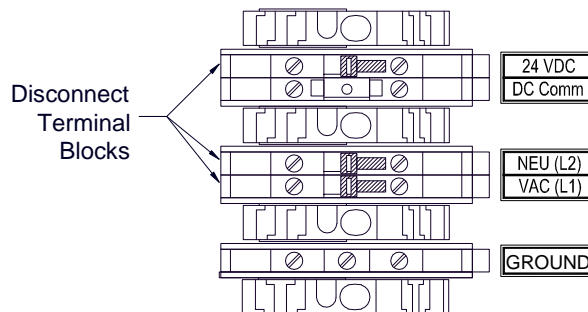

Figure 8 N4X AC/DC Inputs
- a. Install external DC power by connecting the 19.2-28.8VDC to the terminals of the TB1 DIN rail mounted terminal block labeled **24VDC** and **DC Comm** (Figure 8). The equipment supply wiring must be safety approved and rated for at least 5A.